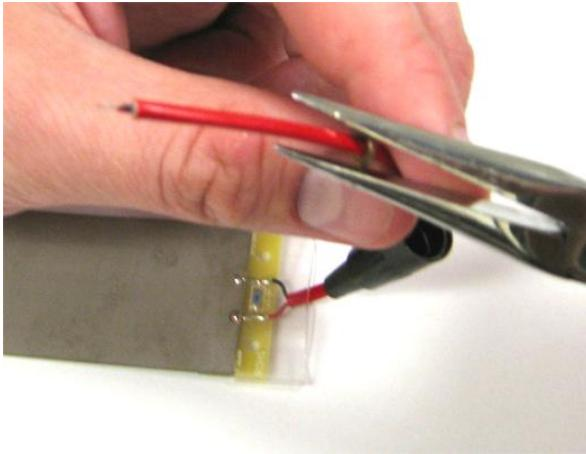
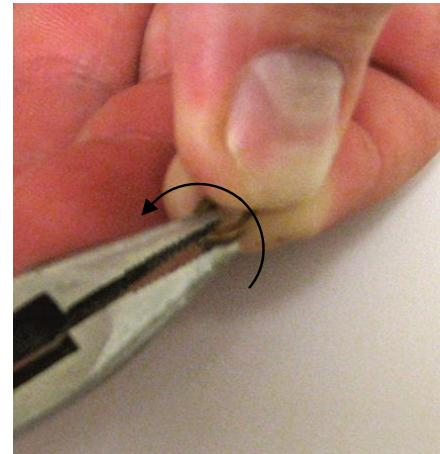

Fig. 4.4a Crimp the brass washer so that it stays put, but can still be moved up and down the fiberglass tubing.
Fig. 4.4b Prior to crimping, use a pair of pliers to twist the ends of the washer so that they don't overlap.
4.4 Slide the connector base over the fiberglass tubing. Next slide a brass locking washer over the tubing and use a pair of needle nose pliers to crimp the washer around the fiberglass tubing (Fig. 4.4a). Crimp the washer tightly enough that it stays in place, but not so tightly that it cannot slide up and down the fiberglass tubing. Note: if the ends of the washer overlap or come into contact with each other the washer will be very difficult to crimp. Prior to crimping use a pair of needle nose pliers to twist the ends of the washer away from each other, as shown in figure 4.4b.